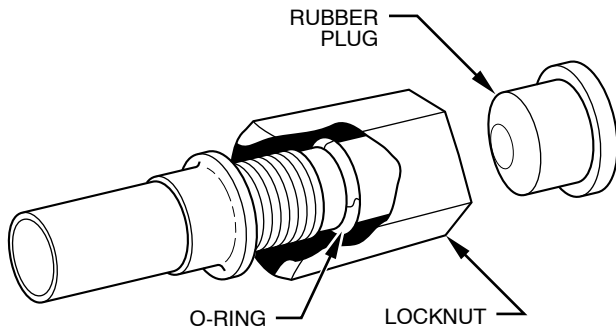

Fig. 1 - Compatible Fitting
1. Loosen lock nut on compatible fitting one turn. Do not remove. (See Fig. 1.)